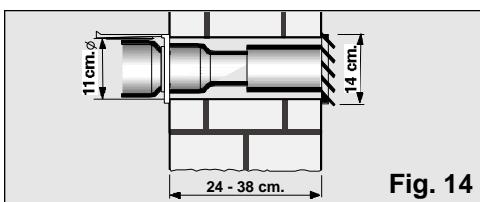

Fig. 14
- To expel hot air through the wall, it is necessary to make a hole in the wall and fit the wall grommet, Fig. 14.